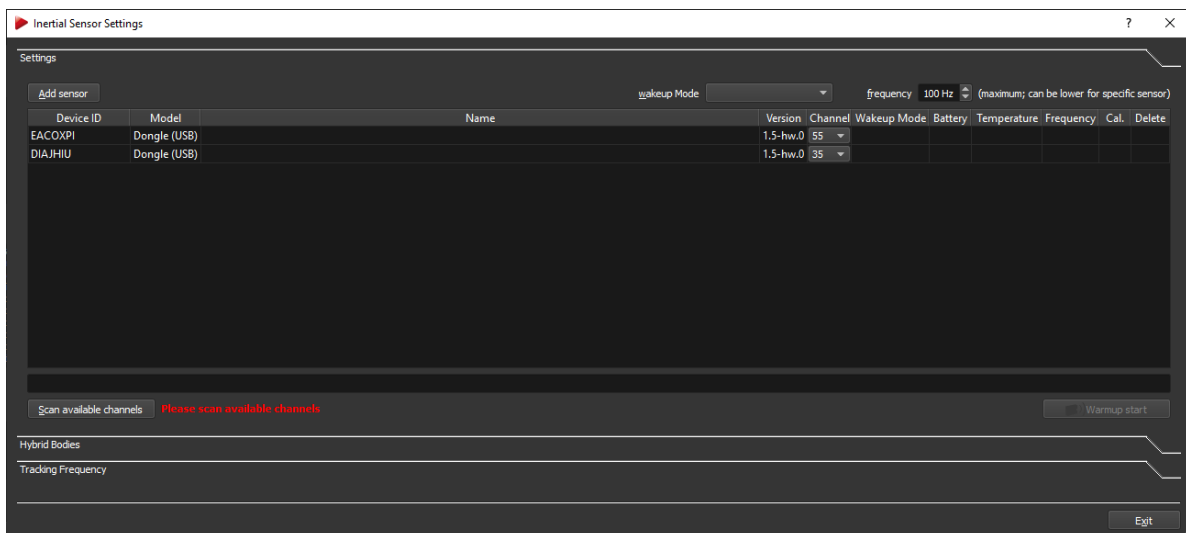

Figure 8.7: Inertial Sensor Settings - Connecting wireless transceivers
Now within **DTRACK3** go to the menu *Hardware* → *Inertial Sensor* and open the *Settings* sub-dialog (see figure 8.7 on page 83).
**Adding wireless inertial sensors** In the menu *Hardware* → *Inertial Sensor*, press *Add sensor* to identify and connect all inertial sensors in range (see figure 8.7 on page 83).